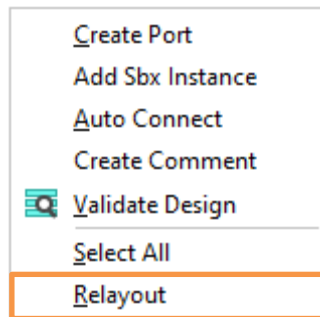

Figure 5.6. Relayout Option
6. (Optional) Right-click on the **Schematic** view and select **Relayout**, if the new design is out of proportion (Figure 5.6).